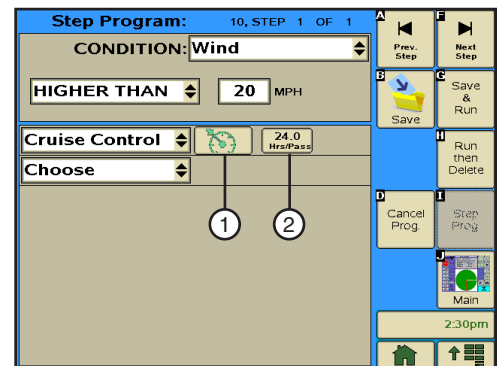

Figure 145-3 1. Cruise Control ON Button
- b) Push the **Cruise Control** button to turn it on. The button changes, and will appear as it does in Figure 145-3.